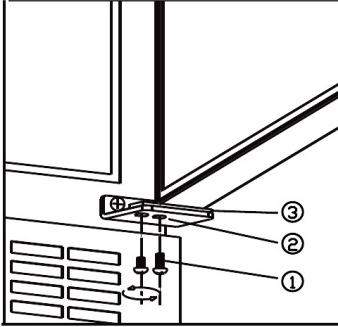

fig. 8.1
- Dismount the screws (1) **SUPPORT THE DOOR!** See fig. 8.1